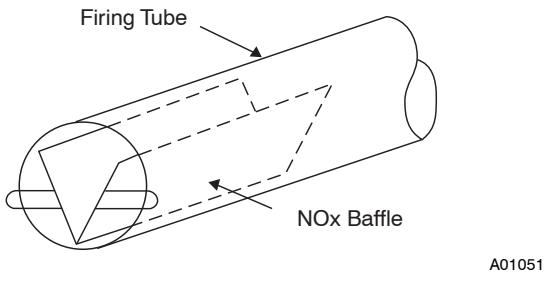

Fig. 1 - Low NOx Baffle Location
Before converting a unit to propane gas, remove the burner assembly and inspect the heat exchanger tubes. If there are V-shaped NO_x baffles installed in the firing tubes, (see Fig. 1). **THEY MUST BE REMOVED PRIOR TO CONVERTING THIS UNIT TO PROPANE GAS.**
10. Inspect the inlet of the heat exchanger tubes for presence of V-shaped NOx baffles (see Fig. 1). If baffles are present, they must be removed prior to converting unit for propane gas. Using needle-nose pliers, remove NOx baffles, squeeze sides of the baffle, if necessary, to remove from the heat exchanger tubes.